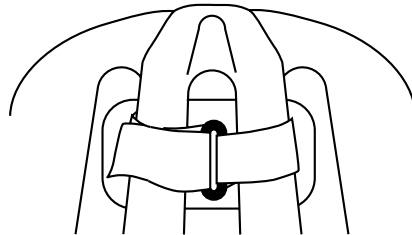

Fig. 3
3. Loop the strap through the "D" ring and maneuver it back down through the same hole (see Figure 3).